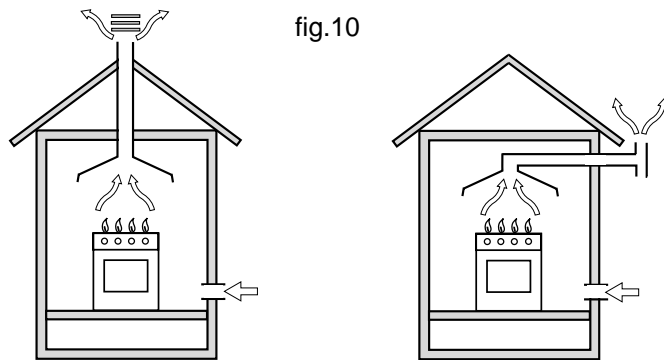

fig.10
- The appliance must discharge combustion products into a special hood, which must be connected to a chimney, flue pipe or directly to the outside (fig.10).